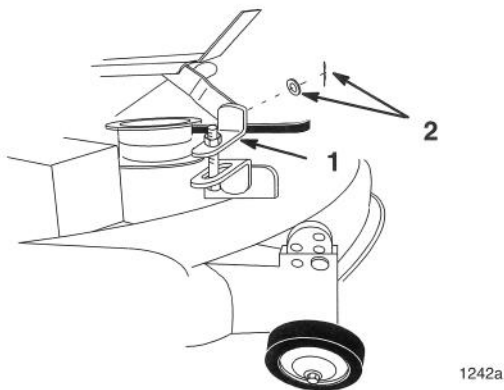

Figure 12
4. Remove hairpin cotter and washer from right front adjustable link(s) and remove from front lift arm (Fig. 12).